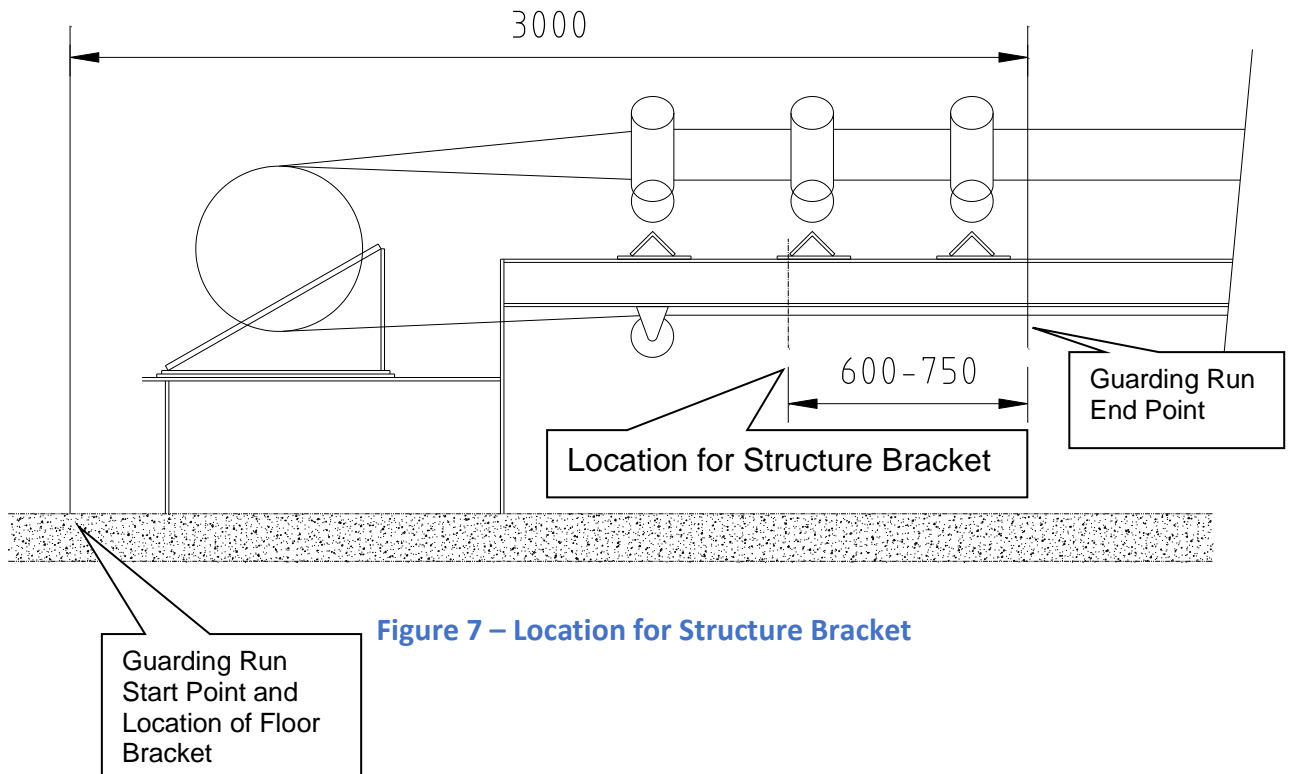

Figure 7 – Location for Structure Bracket
Step 1 - Determine the start point for the Guard run, at the rear of the Tail Pulley. Measure forward the required run length – use 3 metres for this example. Measure back from that point about 750mm to determine the position of the Structure Bracket - see figure 7.